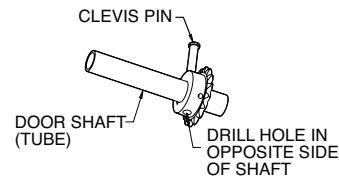

Figure 7B
- 3) Drill through opposite side of shaft to obtain proper hole alignment. **Fig. 7B.**